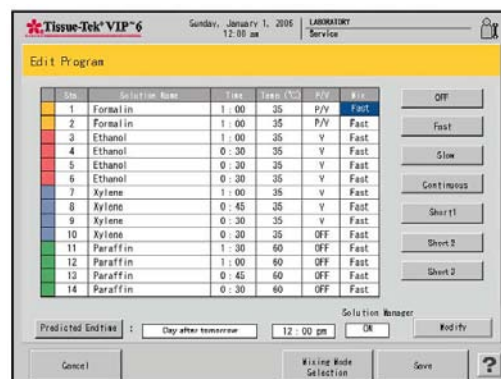

Figure 3-GGG
1. Touch the Mix field in the step to be modified (Figure 3-GGG).